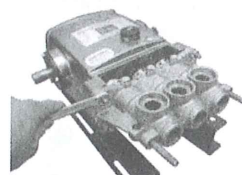

figure 3
1. Use Tool to loose the screw of stople plate (figure 1,2), then another tool to loose the screw of Cylinder (figure 3)